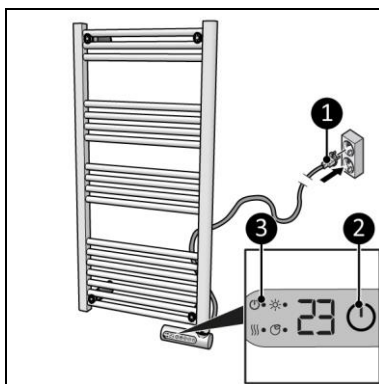

Figure 10
2. Place the power plug (Figure 10, pos. 1) into an earthed wall socket that is easily accessible. Use an earthed wall socket with a minimum power of 800 Watt.
3. The ON/OFF indicator will light up (Figure 10, pos. 3).
1. Press the ON/OFF button to turn on the device (Figure 10, pos. 2). The display will show the set temperature.